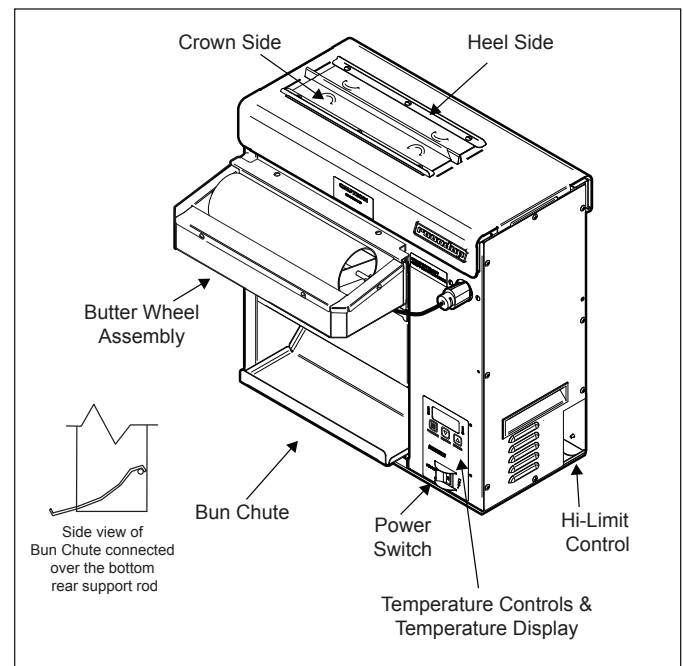

Figure 2. VCT-2010 Components
2. Install the Bun Chute so the hooks are installed over the lower rear yellow Support Rod (Figure 2).
4. Plug the Butter Wheel Assembly power cord into the receptacle on the front of the unit where the Butter Wheel Assembly is mounted (Figure 2).